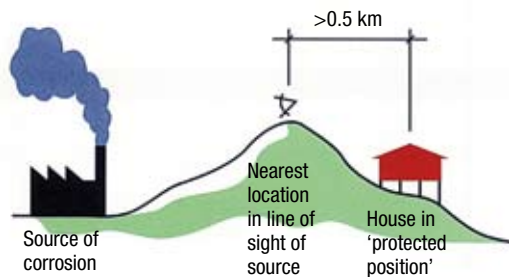

Figure 1 Definition of a 'protected position'
For three sources of corrosion, and depending on whether the house is in an exposed or protected position, a level of corrosion potential may be established based on the distance of the house from the source of corrosion Figure 1, Table 1.
*A protected position is one that is more than 0.5 km from the nearest location that is in line of sight of the source of corrosion Figure 1.